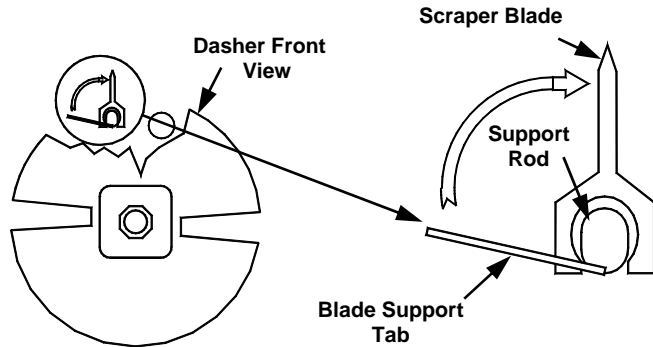

Fig. 9
- Remove the blades from the dasher by first rotating blade upward (Fig. 9) and then unsnapping one end from the support rod.